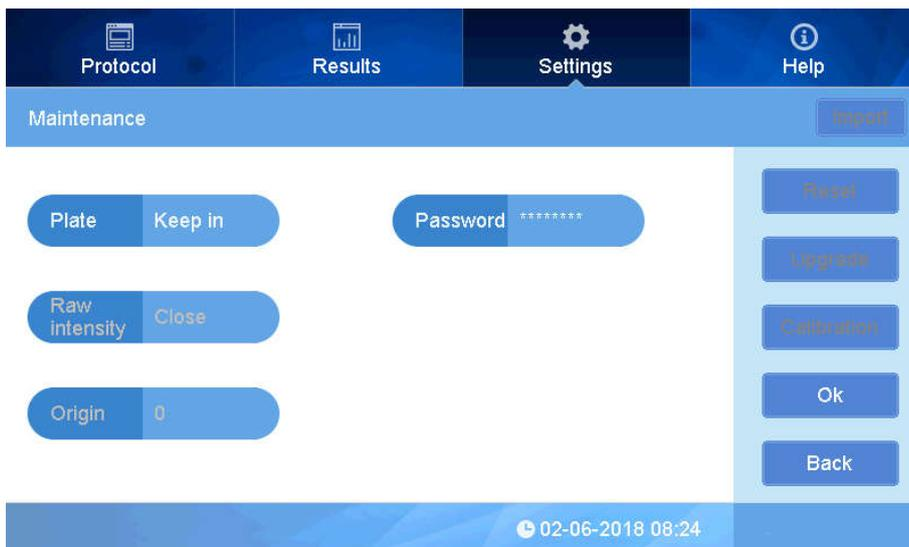

fig 50
- Click "Maintenance" to enter into interface(Fig 50).